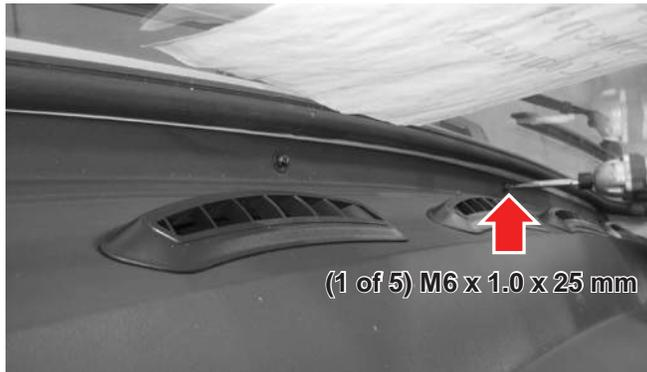

Figure 16-1
2. Reinstall the screws and washers (see Figure 16-1).